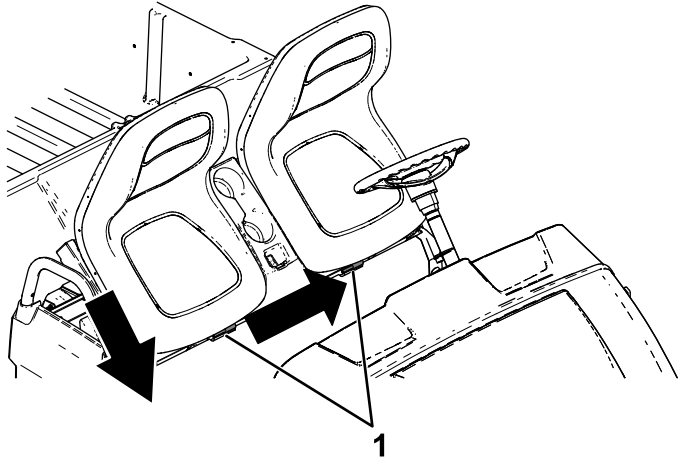

**Figure 33**
2. Slide the seat assembly to the side out of the pins, and lift the seat assembly upward (Figure 33).